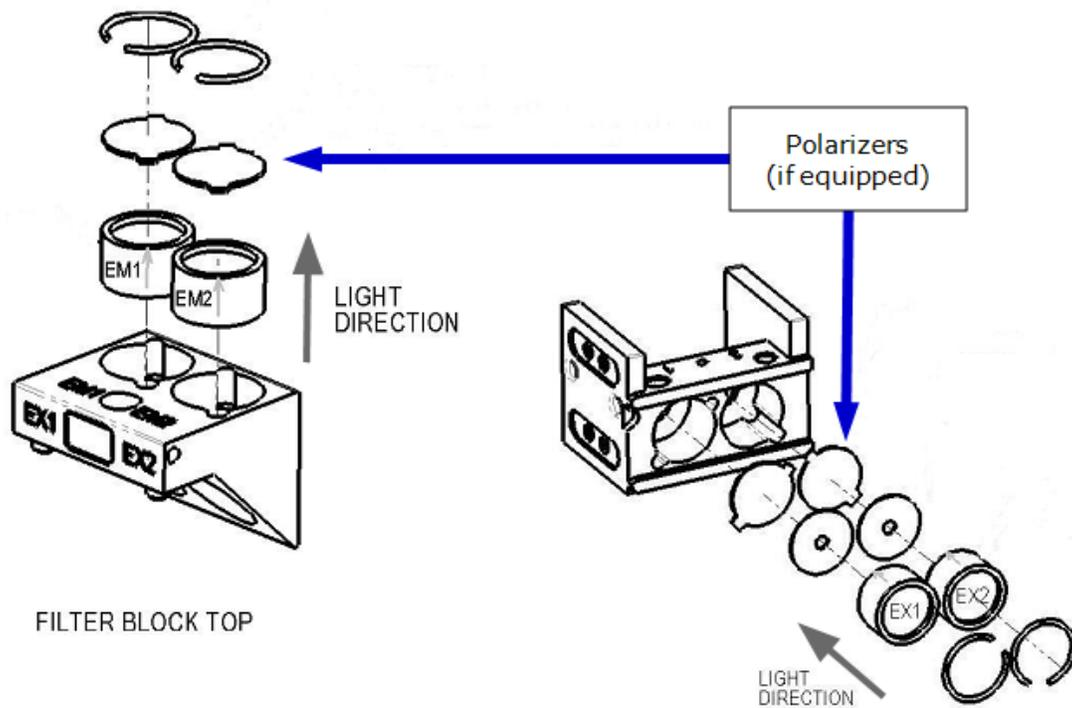
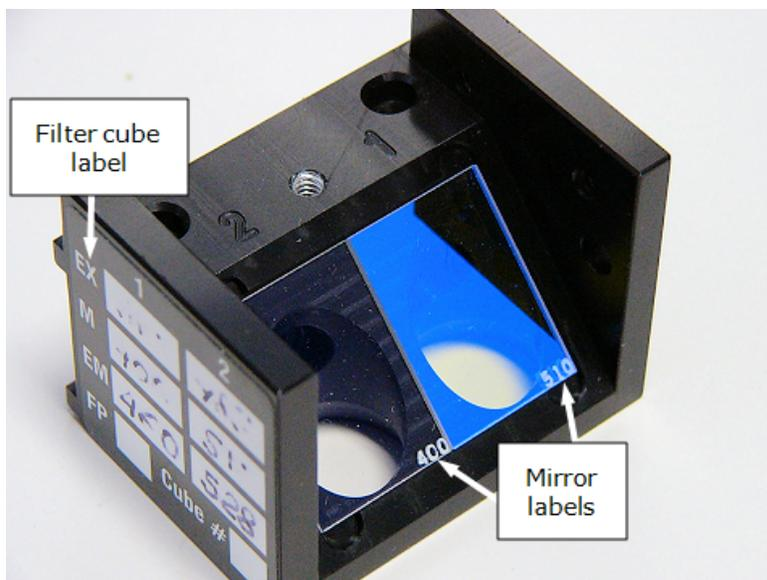

Figure 4-2: Proper orientation of the EX (left) and EM (right) filters in the filter cube
Figure 4-3: Two half-size mirrors positioned in the filter cube, with their labels in the lower-right corners
Filters are not specific to either excitation or emission. *Filter direction* within the filter cube is important, and as illustrated in Figure 4-2, the direction differs depending on the filter's placement in the cube (EX or EM). Each filter has its central wavelength and bandpass values printed on its side, with an arrow to indicate the proper direction of light through the filter.
Mirror direction is also important. The mirror label should be in the lower-right corner of the mirror and readable (see Figure 4-3 on the next page). If the mirror is positioned incorrectly, your measurement data may be inaccurate.
1. Ensure that all filters, plugs, and mirrors are inserted properly in the filter cube (see Figure 4-2 and Figure 4-3).
- a. Make note of the mirror placement and label orientation (refer to Figure 4-3 on page 48).
- a. Orient the filter as shown in Figure 4-2 on page 47, observing the arrow on its side which indicates the light direction. Drop the filter or plug into the desired location.
2. To replace a mirror, hold the mirror by its edges, turn it so that its label is face-up and readable (see Figure 4-3 on page 48), and place it on the shelf in the filter cube.